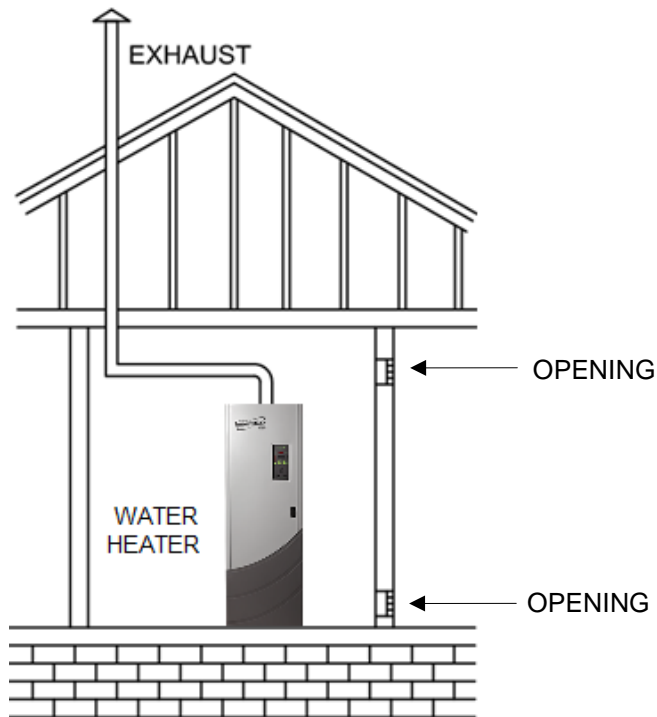

Figure 2: All Combustion Air from Adjacent Indoor Spaces through Indoor Openings
- One opening shall commence within 12 inches (305 mm) of the top of the enclosure, and one opening shall commence within 12 inches (305 mm) of the bottom. (See Figure 2).